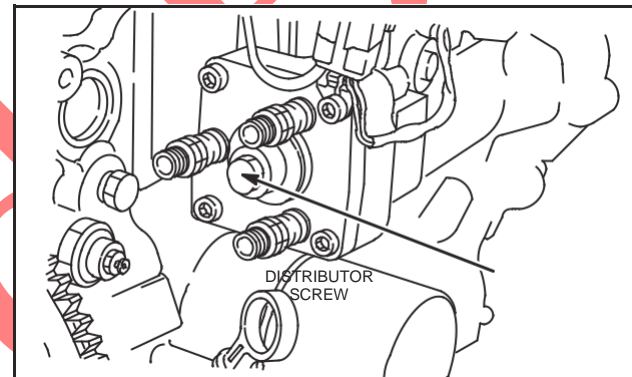

Fig. 6 – Install Distributor Screw
7. Remove timing gage and install distributor screw with new washer, Fig. 6.